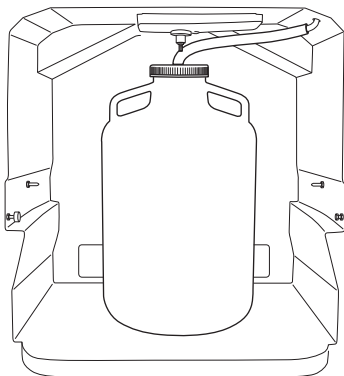

Figure 2-5 One 20 liter bottle configuration with discharge tube through the bottle cap
6. Feed the discharge tube into the hole (see Figure 2-5).